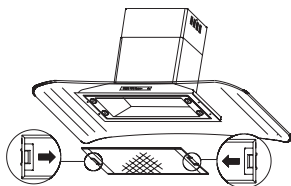

Fig. 1
- Press the clips towards the centre and remove the filters. Fig. 1.